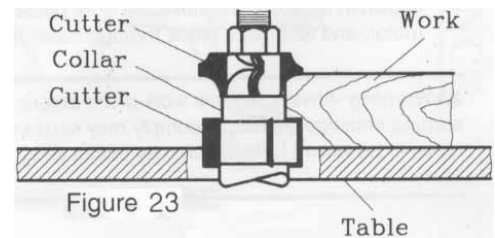

Figure 23
3. When the collar is between the cutters, both edges can be molded in one operation, as shown in Fig. 23. A disadvantage to this technique is that any lifting or variation in thickness of the stock may produce unsatisfactory cut.